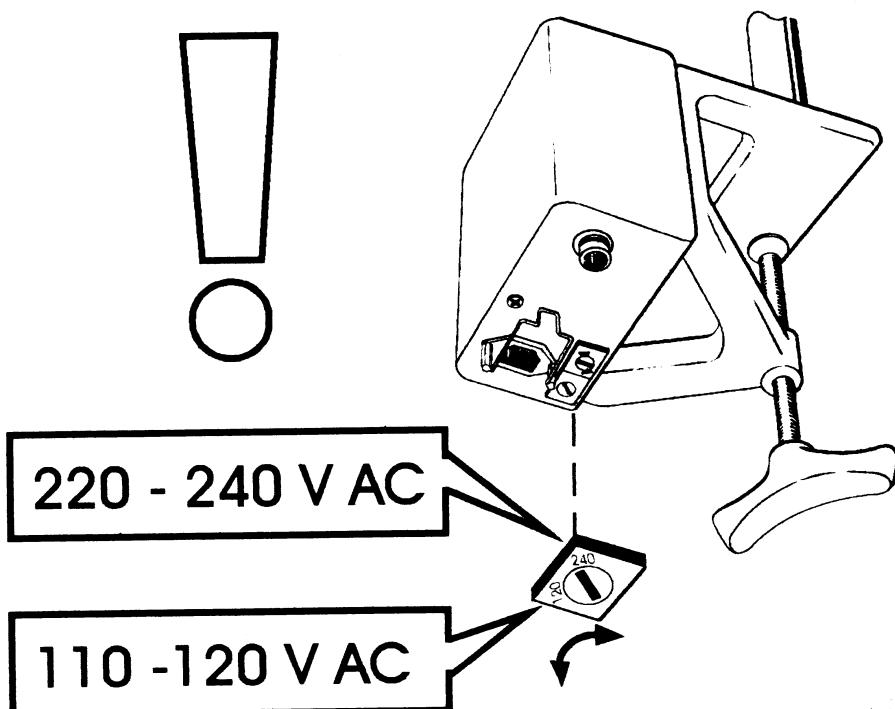

Figure 2      Setting the mains voltage
2. Check that the power supply is set to the correct mains voltage (110-120V or 220-240V), by noting the position of the indicator on the power supply near the mains input plug housing (see figure 2). **Severe damage can occur if the setting is incorrect.**